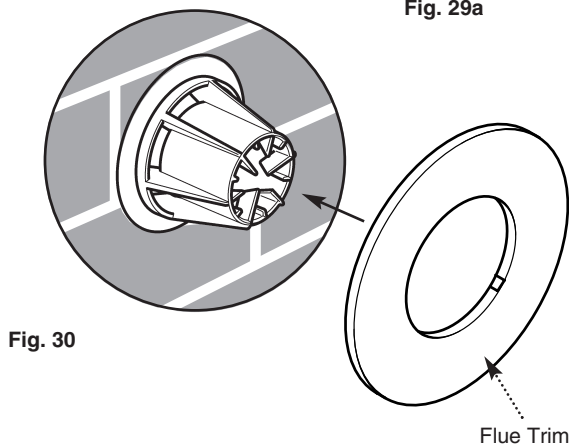

Fig. 30
4. The flue trim provided may be fitted if required, to neaten the wall around the terminal (Fig. 30).